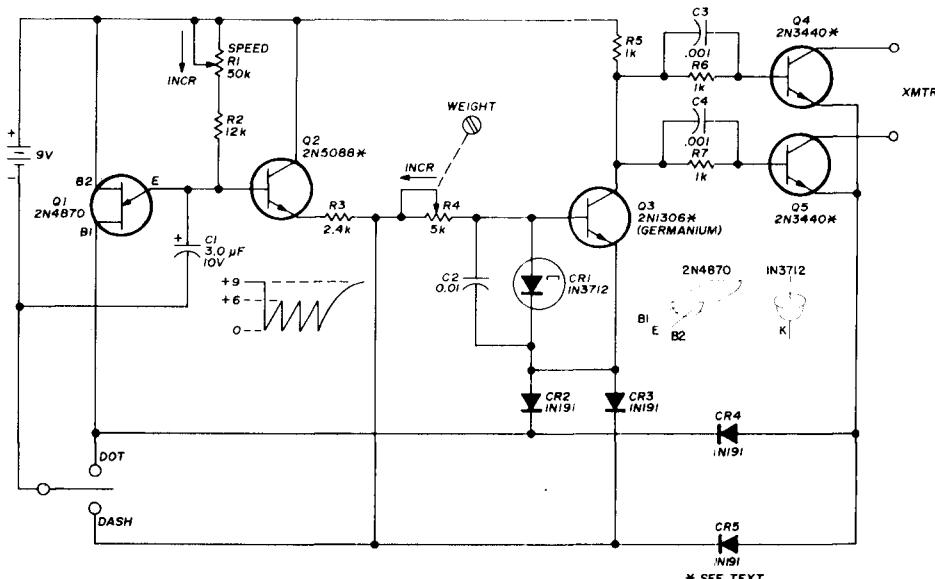

fig. 1. Solid-state bug schematic.
**fig. 1. Schematic diagram of the 6-channel crystal-controlled oscillator. Simple control is possible because of the logic of the TTL ICs which are used in the circuit. ICs U1, U2 and U3 are SN7400N quad NAND gates; U4 and U5 are SN7404 inverters. Crystals are Jan Crystals type 4C-6/U, frequency as required. Switch S1 is a Mallory 8511496. Although not shown on the drawing, pin 14 of all ICs is connected to the regulated 5-volt line; pin 7 of all ICs is connected to ground.**
**Automatic CW generators** are not for me. I enjoy hand sending and suspect there are many other operators who are turned off by anything more automated than a bug. But the bug can stand improvement, and this article describes one operator's approach to modernizing the semi-automatic key. I wanted to maintain the bug's basic operating characteristics and features (automatic dots, manual dashes, and portability) while eliminating its shortcomings (mechanical dot system, unreliable contacts, and awkward speed control). The design goals were: conveniently adjustable speed during operation, all solid-state design, low-drain battery operation, single unit construction and a "feel" identical to a conventional bug. The result is the solid-state bug shown in the photograph. The circuit is built into a modified Lafayette bug.\* The dot spring and damper were removed to make room for the five-transistor circuit shown in fig. 1.
Fig. 1 shows the modified XT-4 circuit with the frequency-shift keyer removed. It would be advisable to review Hoff's article on the XT-4 concerning parts and
fig. 1. XT-4 crystal oscillator circuit with buffer stage for crystal control of Heath SB-series equipment. Bandpass transformer T1 is Heath part number 52-103. Capacitor Cf is a piston trimmer in parallel with fixed capacitors to adjust oscillator to desired frequency.